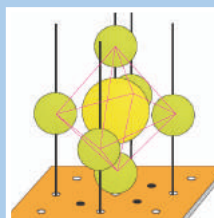

Figure 4 : Showing SF_6
- (2) Regular octahedral-shaped molecules such as SF_6 can be made using side A of the model by placing six balls at the face-centred positions of the cube and one in the centre, using dowels in the appropriate holes. (Fig. 4)